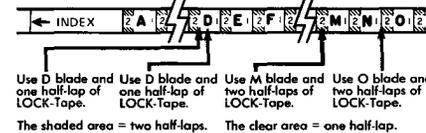
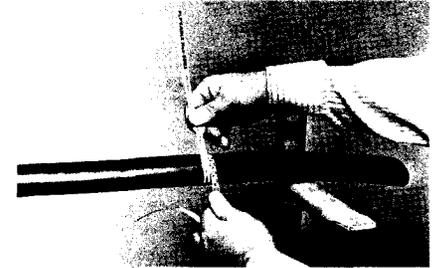

Figure 4 — Cable Mea-SURE™ Tape
Figure 5 — Measuring Cable with Measuring Tape
B. It designates either one or two half-lapped layers of 1-1/2" LOCK-Tape to be wrapped around the cable. (See Figure 4, Figure 5.)
If index line falls on the line between areas, proceed as if the index line had fallen immediately right of the indexed line. (Refer to Figure 5).